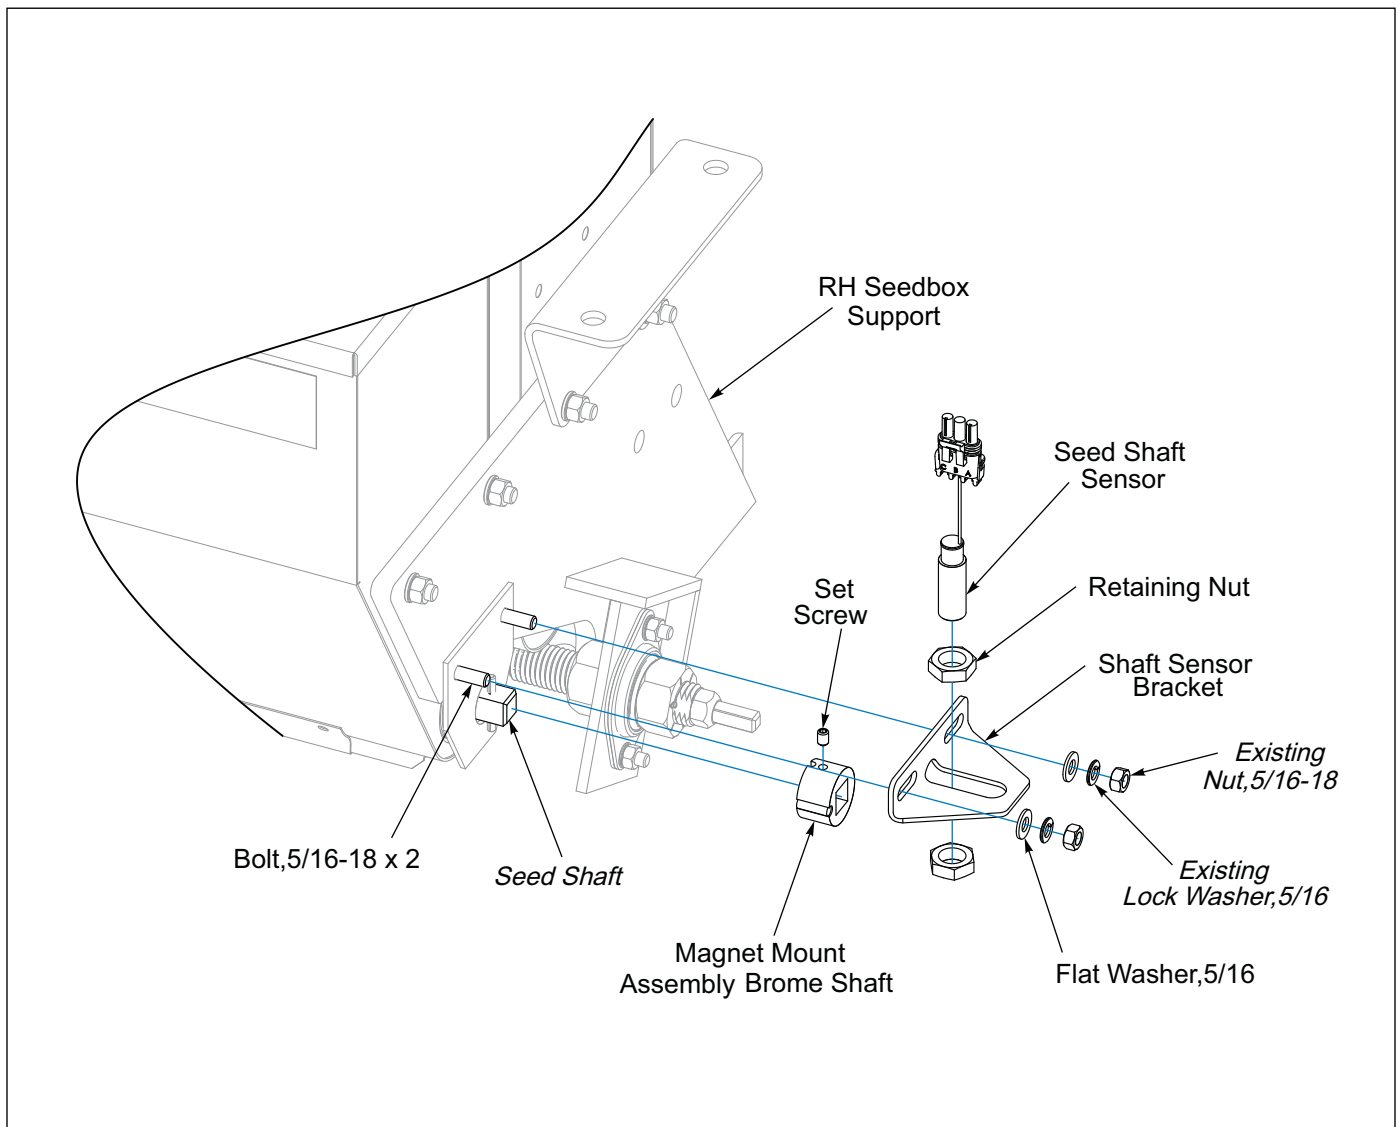

Figure 2-28: Brome Box RH Seed Shaft Sensor Bracket
8. On the right hand side of Seeder, slide Magnet Mount Assembly onto Seed Shaft, ensure groove is aligned with Seed Shaft Roll Pin. Secure Set Screw to Seed Shaft. **See Figure 2-28.**